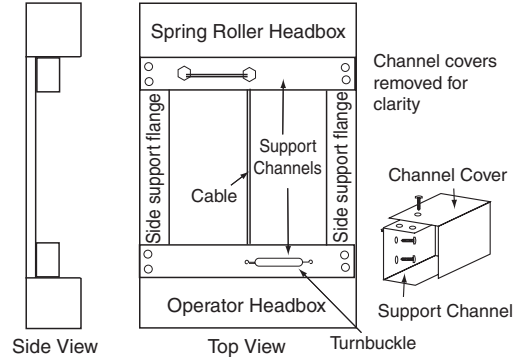

Figure 9
- ① Make sure unit is square.
- ② Install the motor roller and spring roller assemblies by following the instructions in the "Roller Assembly/Installation" section.
- ③ Remove finished channel covers from from support channels.
- ④ Attach support channels to the side support flanges through the pre-drilled holes (see Fig. 9). Make sure fuzzy protective strips along bottom of support channels face inside, away from the headboxes.